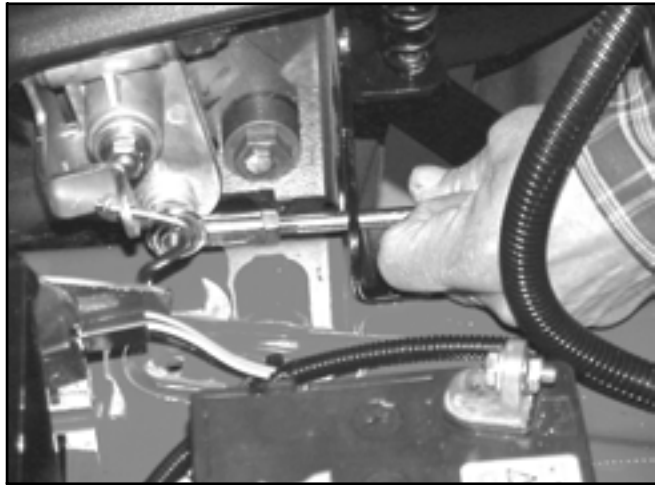

Figure 58
7. Move the control rod back and forth and watch the tire direction. Adjust the rod so that it is mid-point between forward and reverse wheel rotation. Now, check the alignment of the bolt on the end of the control rod. The bolt should enter at a right angle to the actuator arm assembly (Figure 58).